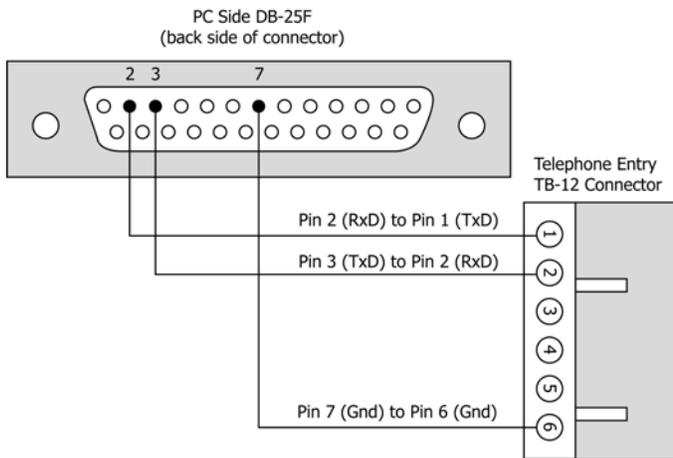

Figure 16: PC/DB-25F to Telephone Entry/TB-12 RS-232 Direct Serial Connections
- If the host computer has a male DB-25 connector on the serial port, you must use a Keri Systems KDP-251 cable or create a cable according to the drawing in Figure 16 on page 15.